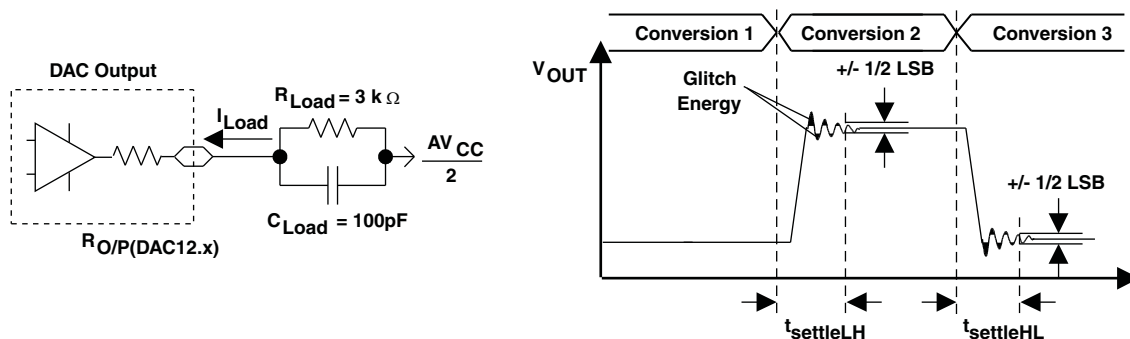

Figure 4-46. Settling Time and Glitch Energy Testing
- (1) R_{Load} and C_{Load} are connected to AV_{SS} (not $AV_{CC}/2$) in Figure 4-46.
- (2) Slew rate applies to output voltage steps ≥ 200 mV.
- (3) $R_{LOAD} = 3$ k Ω , $C_{LOAD} = 100$ pF